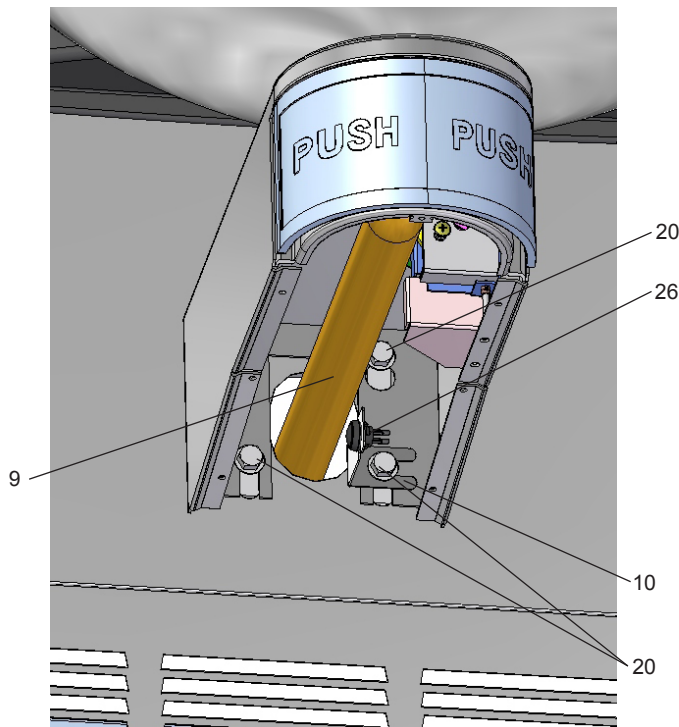

Figure 4 - Fountain Installation
7. **Install** fountains with (8) 5/16-18 HHMS (provided) (Fig 4). Connect the ¼" water lines from each fountain to the remaining openings on the tee at the remote chiller (cut lines to fit as needed), (Test fit refrigerated panel to make sure there is a tight joint between it & the main panel before fully tightening mounting screws.
8. **Install** reset switch and mating bracket on lower fountain (lower right bolt) for bottle filler (Fig 4). Connect the switch wire to the extension wire on the back of the bottle filler. Wrap up the excess cord.